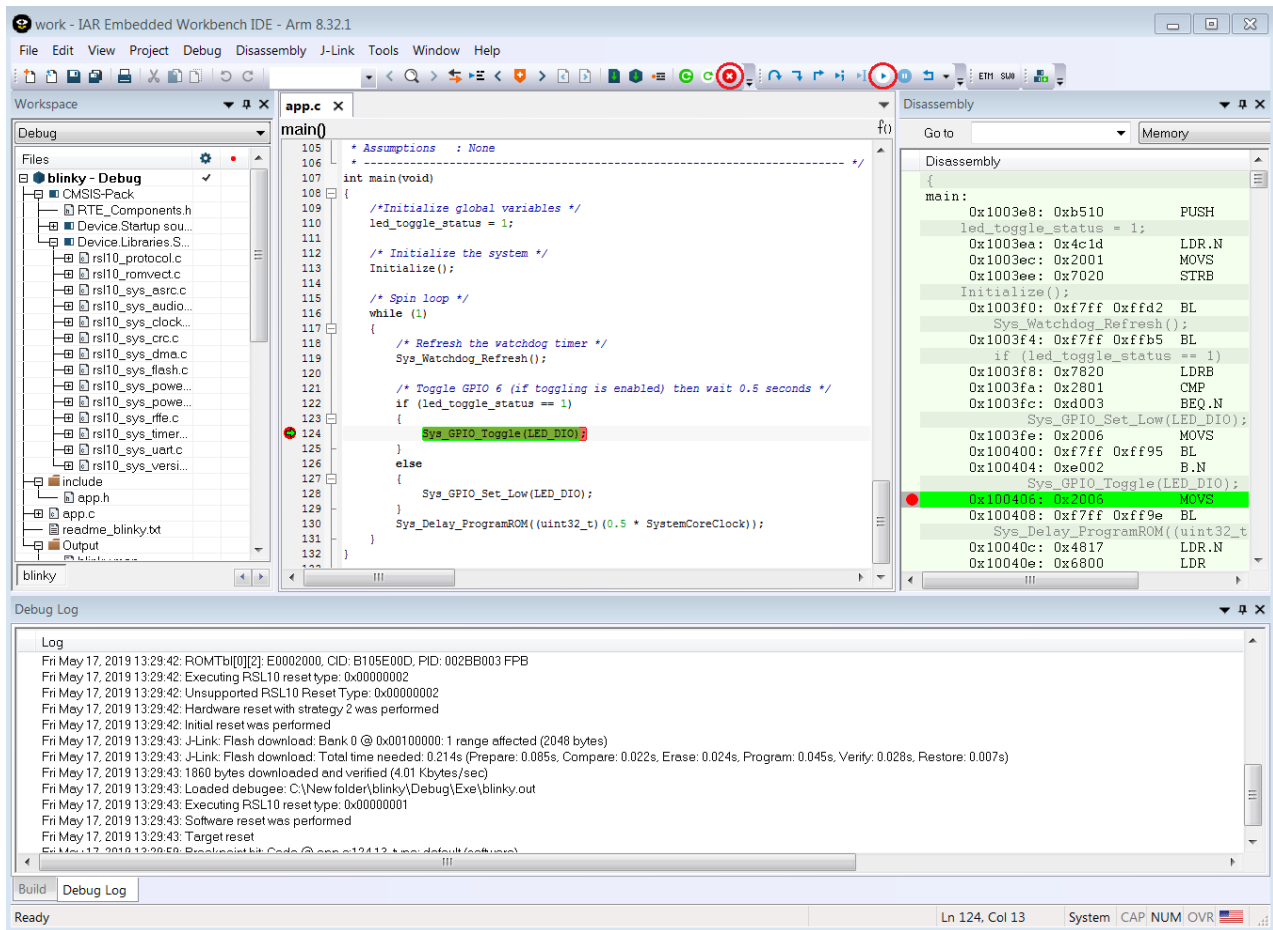

Figure 38. Debug Session in the IAR Embedded Workbench
3. The application runs up to the first breakpoint in *main*. You can press F5 or the Run icon (as shown in the figure "Debug Session in the IAR Embedded Workbench" (Figure 38)) multiple times to step through the code and observe that the LED changes its state when the application executes the function `Sys_GPIO_Toggle(LED_DIO)`. To stop the debug session, press the Stop icon.